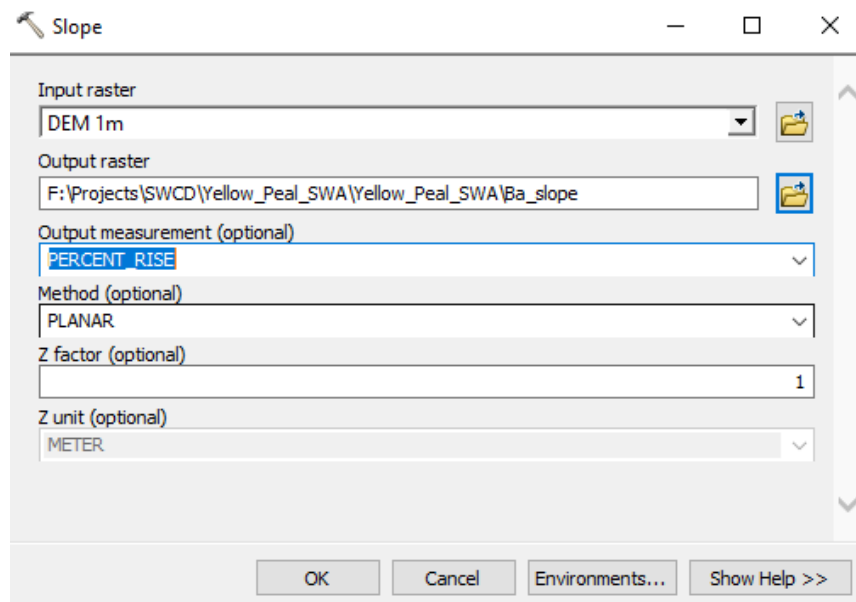

Figure 4. Slope Raster
- In ArcMap, open the Slope tool in ArcToolbox, Spatial Analyst Tools, Surface, Slope (Figure 4).